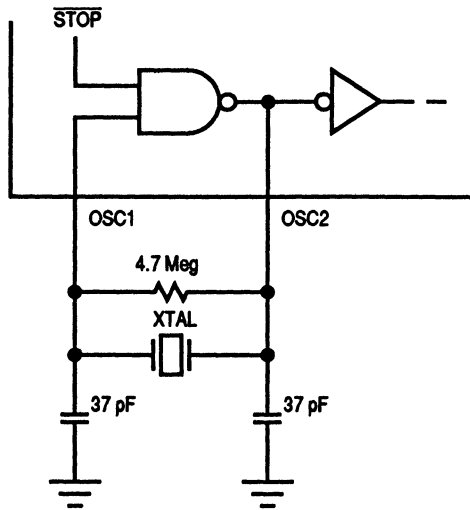

Figure 2-2. Crystal/Ceramic Resonator Connections
- A crystal (Refer to Figure 2-2.)
- A ceramic resonator (Refer to Figure 2-2.)
The circuit in Figure 2-2 shows a typical crystal oscillator circuit for an AT-cut, parallel resonant crystal. Follow the crystal supplier's recommendations, as the crystal parameters determine the external component values required to provide maximum stability and reliable start-up. The load capacitance values used in the oscillator circuit design should include all stray layout capacitances. Mount the crystal and components as close as possible to the pins for start-up stabilization and to minimize output distortion.
In cost-sensitive applications, use a ceramic resonator in place of the crystal. Use the circuit in Figure 2-2 for a ceramic resonator, and follow the resonator manufacturer's recommendations, as the resonator parameters determine the external component values required for maximum stability and reliable starting. The load capacitance values used in the oscillator circuit design should include all stray layout capacitances.